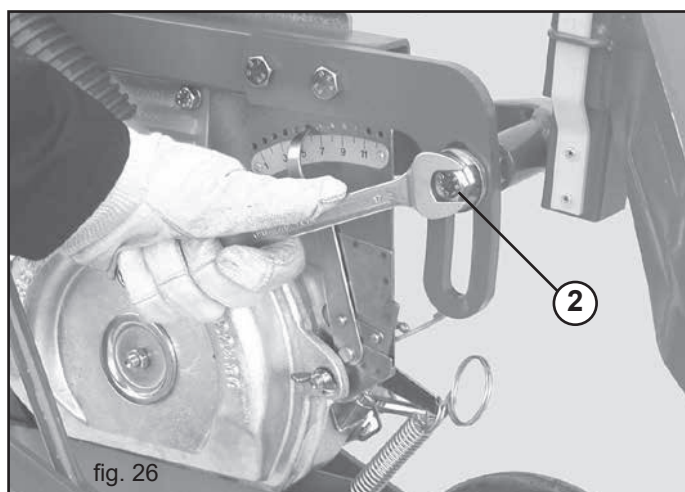

fig. 26
In the beet configuration check that the equalizer is centred on the seed planting furrow; if necessary adjust screw (2) in Figure 26.